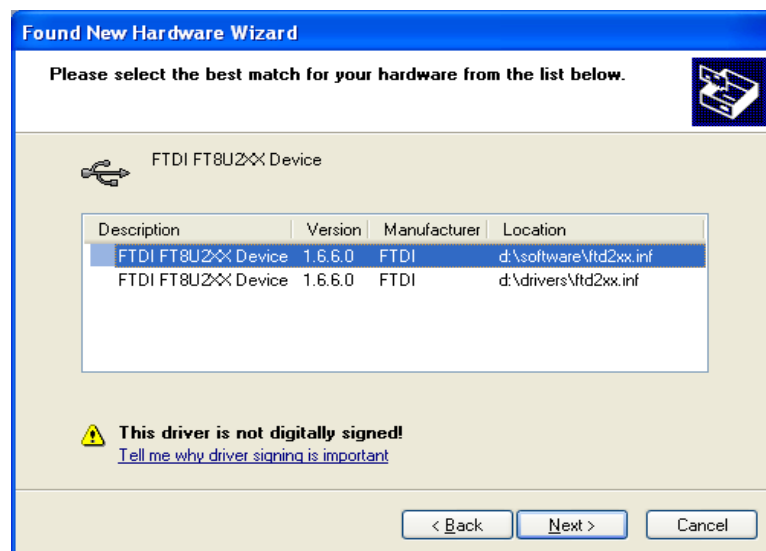

Figure 12
2. Select **FTDI FT8U2XX Device** and click **Next** (Figure 12).